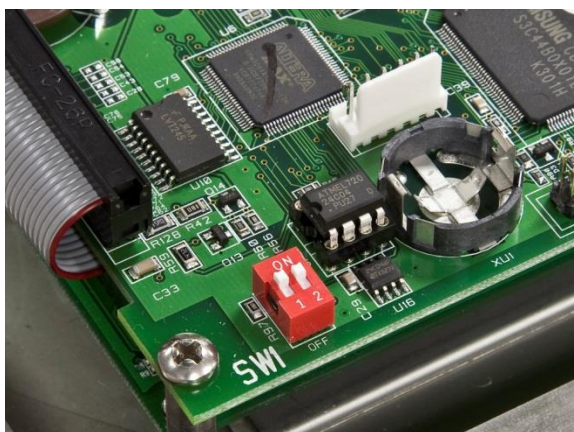

Figure 4-16: Switches SW1-1 and SW1-2
3. Place both switches SW1-1 and SW1-2 in the ON position, as shown in Figure 4-16.